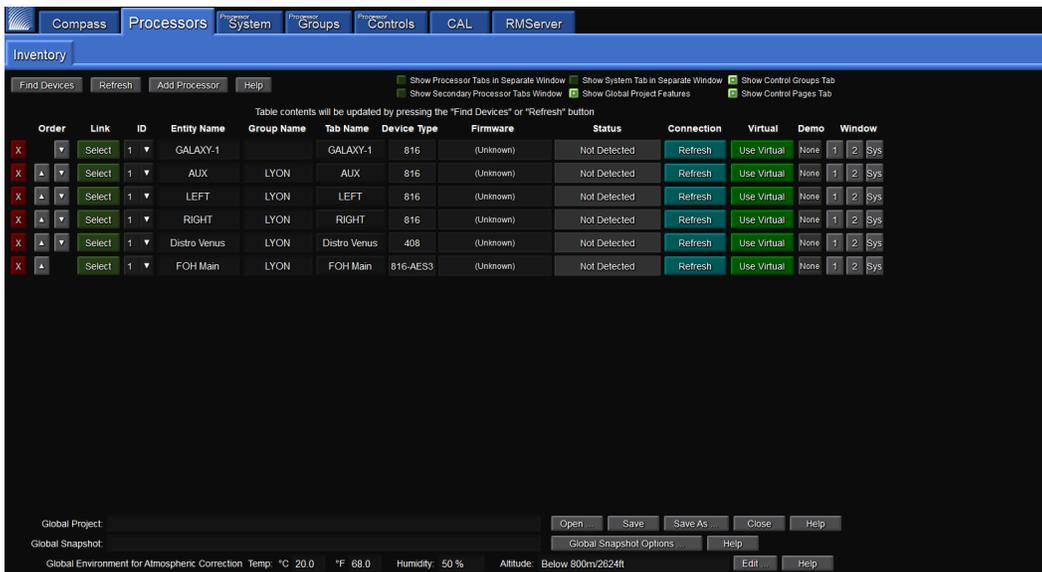

Figure 12: Processor Tab Landing Window
6. Click on the top tab labeled “Processors,” which then displays the Inventory tab (Figure 12). Click the “Find Devices” button in the upper-left corner to list the available GALAXY processors if they have not already been auto-discovered. The GALAXY processor connected in Step 2 should automatically be listed. If it is not listed, verify that the switch is properly configured and all cabling is correct.